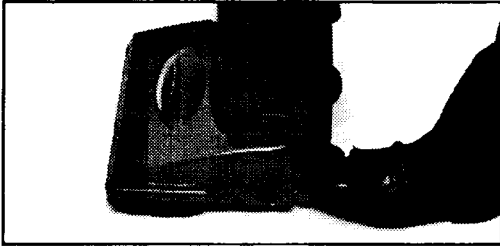

Fig. 7
The handle can be set to one of three positions: Upright, Middle or Low. To release the handle, step on the pedal at the left rear corner of the vacuum cleaner [Fig. 7].
1. Upright Position: Handle locks in this position for vacuum cleaner storage. The handle should always be in the upright position when cleaning tools are used [Fig. 7].